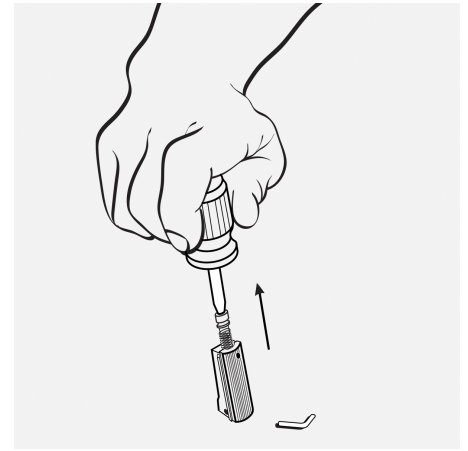

Figure 15-3
4. Slowly and carefully release the pressure on the spring cap allowing it to move out of the mainspring housing. (Fig. 15-3)